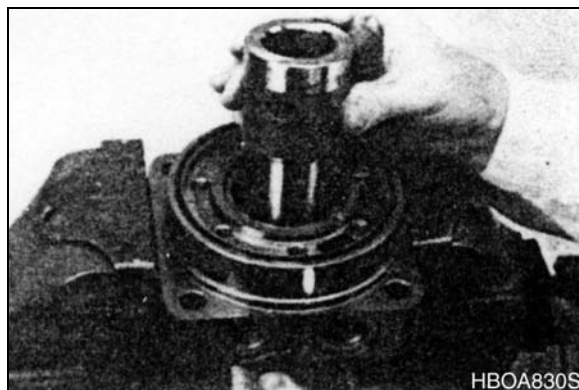
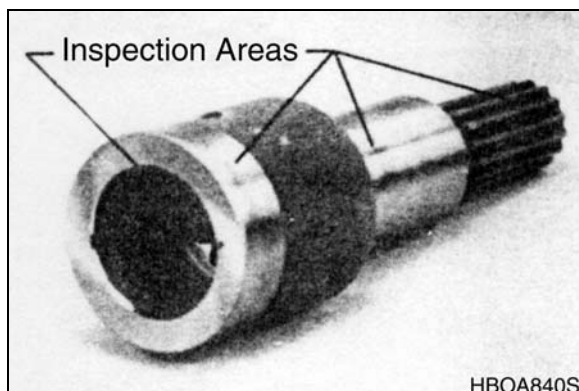

Figure 22
Figure 23
15. Remove coupling shaft (12), by pushing on the output end of shaft. See Figure 22. Inspect coupling shaft bearing and seal surfaces for spalling, nicks, grooves, severe wear or corrosion and discoloration. Inspect for damaged or worn internal and external splines or keyway. See Figure 23. Replace coupling shaft if any of these conditions exist.